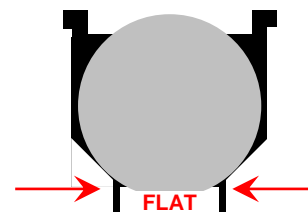

*Fig.9: The correct position (left) of the **black knob** *) for automated processing.
5.1.1 Ensure that the carousel lid is closed and the latch of the lid is fixed and secured by the **black knob** at its base (*Fig.9*). The black knob should be turned and pushed in to the left.